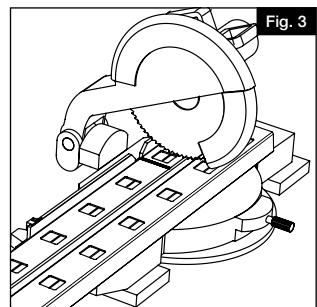

Fig. 3
- Align top rail with bottom rail and cut both rails with miter box or hacksaw (see saw blade manufacturer's specs for correct blade) (Fig. 3).